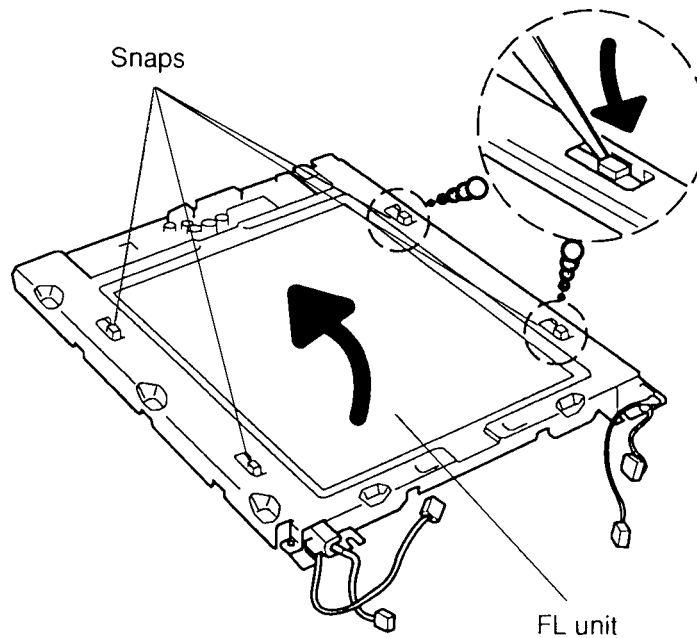

Figure 4-36 Releasing the FL Unit with the LCD Panel from the Back Frame
7. Use a slender object, such as tweezers, to push through the four holes on the unit and un-snap the latches to free the **LCD panel** from the back frame (Figure 4-36).
8. Lift off the back frame and turn over the **FL unit**, so it faces up (Figure 4-36).
2. Put the **FL unit** with **LCD panel** in the back frame and press on the sides to secure the snaps (Figure 4-36).